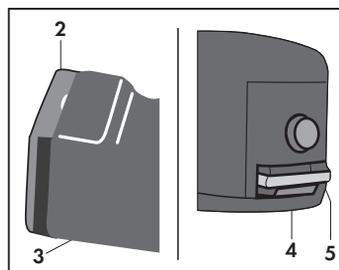

Fig. 9
- Close the flap (2) so that it bears against the side of the quick connection (3) and ensure that the two elements (4-5) hook up **(Fig. 9)**. This socket provides for steam delivery and/or suction.